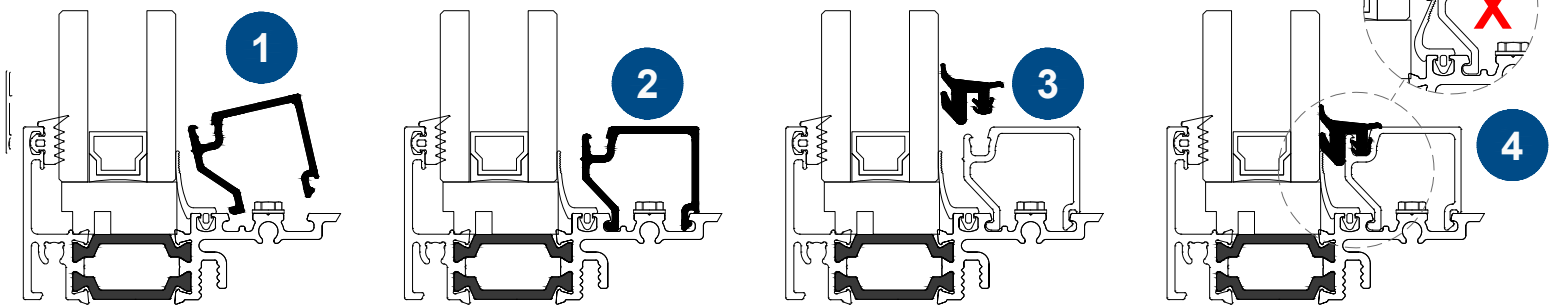

FIG. 3
- a. Reinstall Glass Stops, starting with horizontals first. **See FIG. 3, STEPS 1-2**
- c. Insert glazing gasket starting from one end, repeat this every 16" [406]. Ensure opposite end of the gasket is inserted before rolling remaining gasket. **See FIG. 3, STEPS 3**
- d. Ensure glazing gasket is pressing against airseal gasket. **See FIG. 3, STEPS 4**